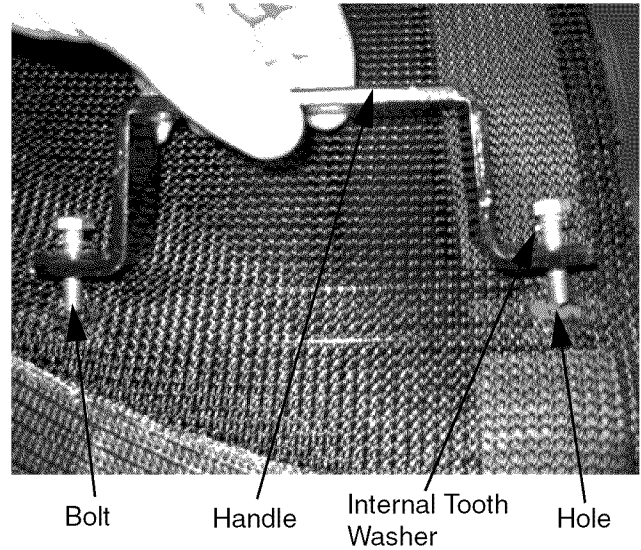

Figure 5
4. Attach two handles [C] to Bag Frame assembly [B] with four 1/4-20 x 1.00 capscrews [K], four Internal Tooth Washers [I] and four 1/4-20 Nylock nuts [L]. Insert capscrew through washer and through hole in handle and through bag (bag must be cut to insert bolt). Tighten nuts as shown in Figure 5.